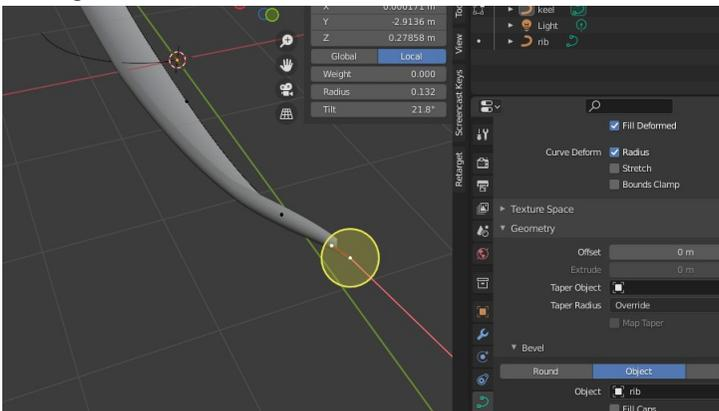

Figure 3-8 Using Tilt and Radius to form a boat shape
3. Move the other point so it is above and left of the origin then rotate and scale the points so the line forms a smooth curve. You can see the rib curve at the top left of Figure 3-8.
Figure 3-8 shows my attempt. You will probably find that this method, though good for some shapes, doesn't provide the flexibility required for a boat's hull.